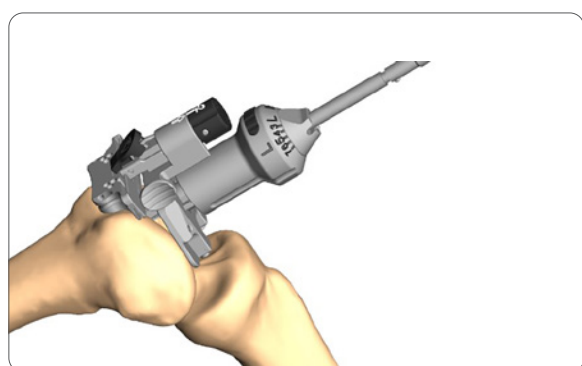

Figure 6
2. Slide the Intramedullary Rod of the alignment assembly into the femoral canal until the Valgus Guide contacts the distal femur (**Figure 6**).